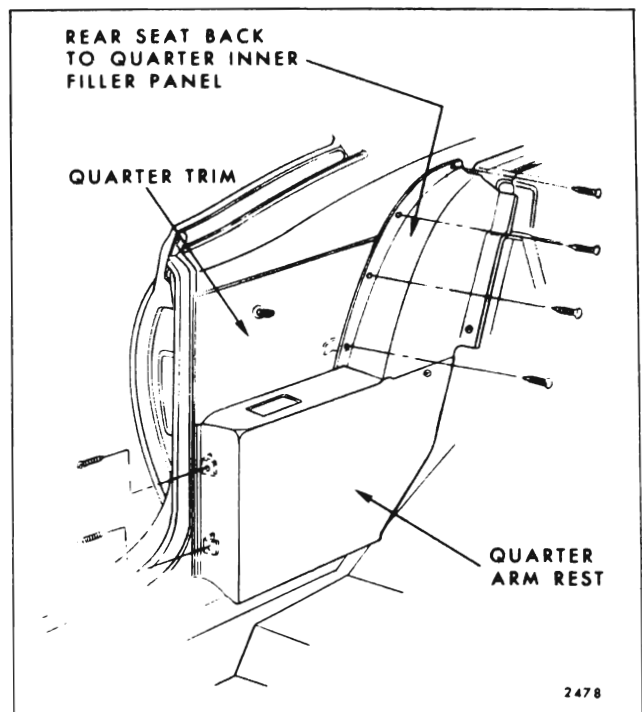

Fig. 14-26—Quarter Trim Assembly - “F-37” Styles Only
- c. Remove screws securing seat back panel to quarter inner panel filler panel on "37" styles and screws securing folding top compartment side trim panel on "67" styles (Fig. 14-26 and 14-27).
- d. Remove screws securing arm rest assembly (Fig. 14-26 and 14-27).